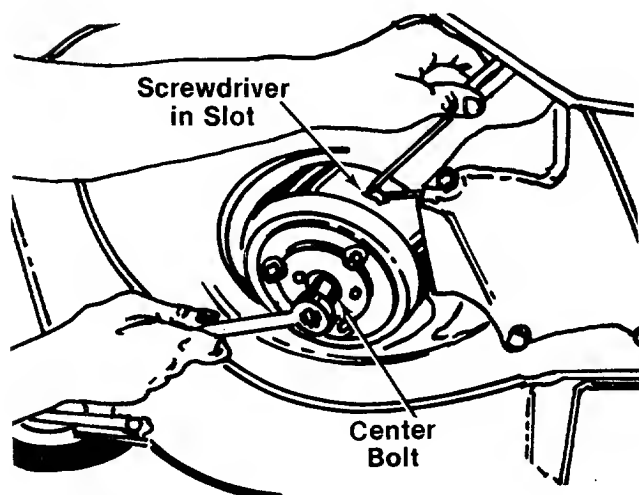

FIGURE 30.
- a. Insert a screwdriver into the slot provided in the blade brake/clutch housing where the control cable enters housing. See figure 30.